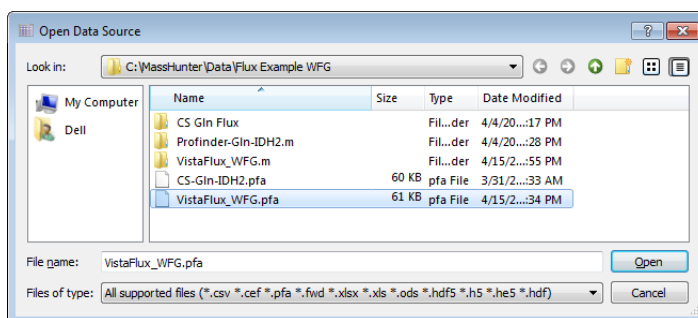

Figure 70 Open Data Source dialog box
- Navigate to the folder and select file VistaFlux_WFG.pfa (Figure 70) in the **Open Data Source** dialog box.